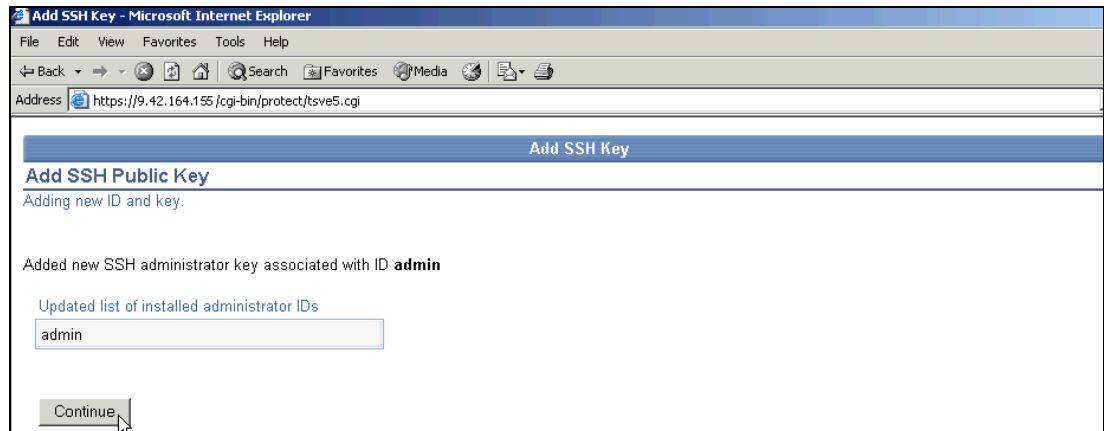

Figure 4-15 Adding SSH admin key successful
3. On the next page (Figure 4-15), a message is displayed indicating that a new SSH administrator key associated with the ID *admin* was added. Click **Continue**.